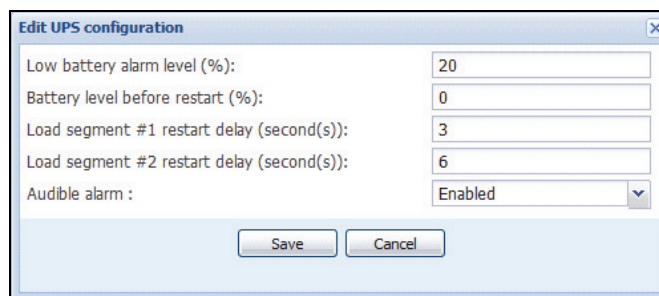

Figure 31. Edit UPS Configuration Dialog Box
3. Click **Edit UPS configuration**. The Edit UPS Configuration dialog box displays (see Figure 31).